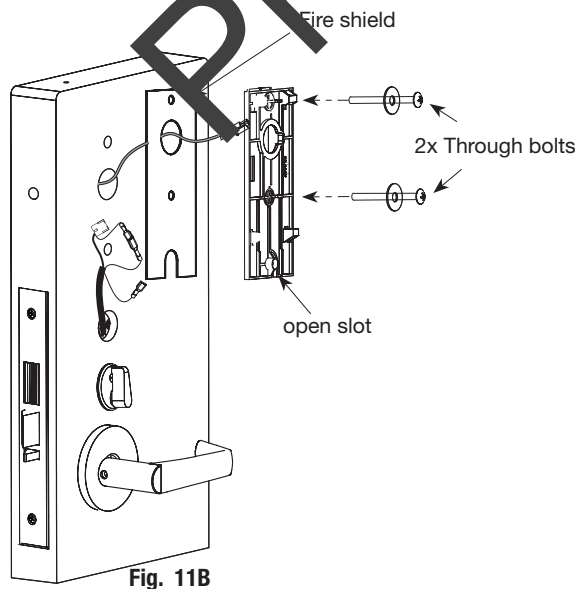

Fig. 11B
2. Feed the DPS wire through the hole of the fire shield and feed the lock wiring into the slot (Fig. 11B).